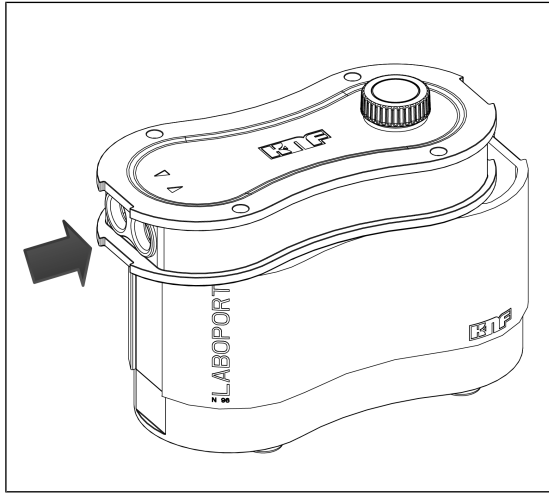

Fig.12: Pushing housing cover over gas connections (close pump)
2. Push the housing cover (2) over the gas connections until the geometry of the housing cover (2) is aligned with that of the pump housing (3) (see Fig. 12).